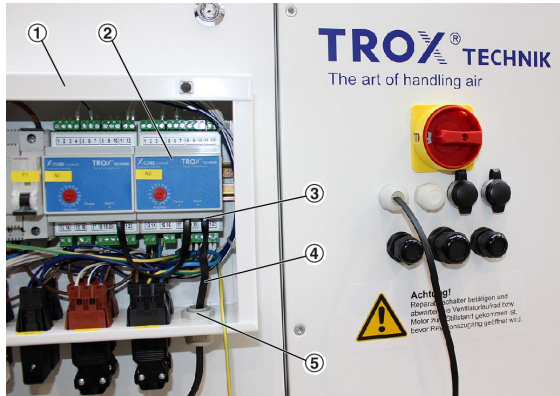

Fig. 4: Controls module
3. ▶ Open the cover of the controls module ( Fig. 4 /1) and set the address of the accessory on the Extension Module ( Fig. 4 /2) ↪ on page 7 .
Take the supplied bus connecting cable (RJ12, Fig. 4 /4) and feed it through the cable entry point in the casing of the controls module ( Fig. 4 /5) into the controls module.
Plug the bus connecting cable into the RJ12 socket ( Fig. 4 /3) on the Extension Module.